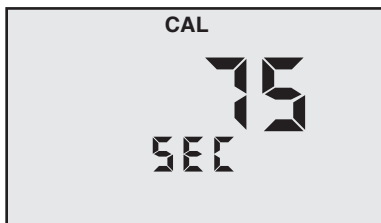

Figure 26
5. Press  or  to change the time (see Figure 26). Maximum time is shown.